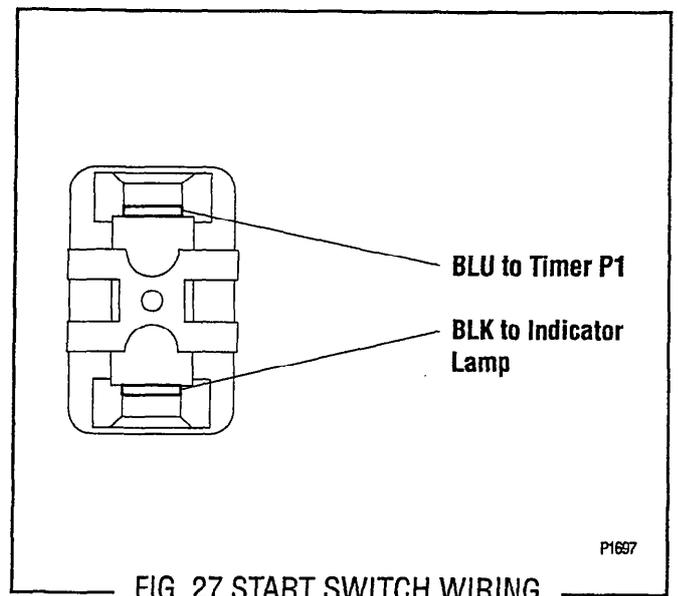

FIG. 27 START SWITCH WIRING
4. Refer to FIG. 27 when reconnecting the wires.